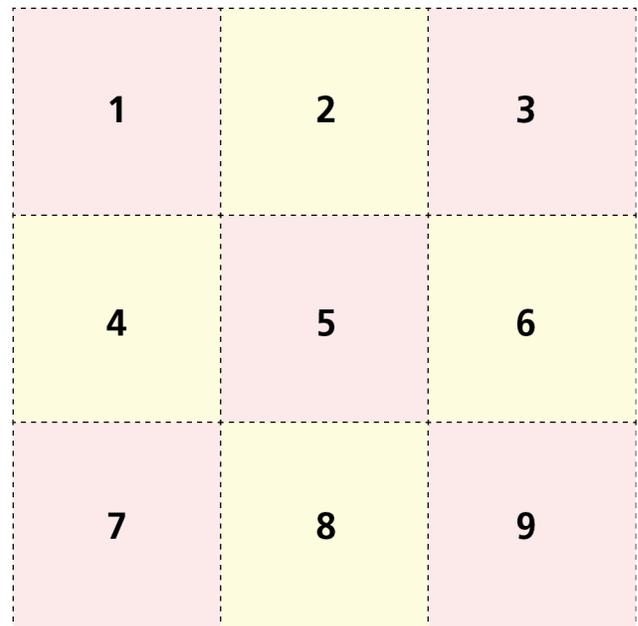
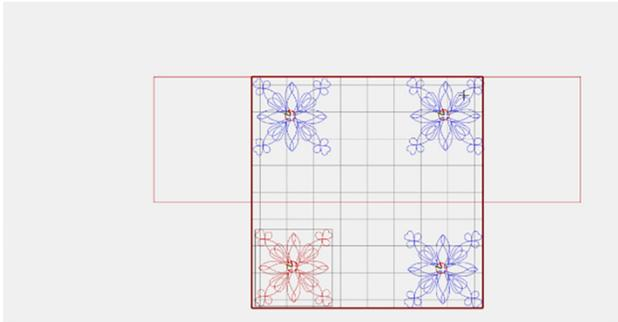

Fig. 71
Fig. 72
- Referring to the layout (Fig. 71), place Design 1 in block areas 1, 3, 7, and 9 (Fig. 72). Don't worry about spacing—we will take care of that after all blocks are placed.